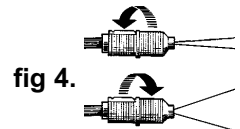

fig 4.
- 4.2.2. Rotate nozzle in order to determine the best setting for the lance, either a fine high pressure jet or rotablast (fig 4).